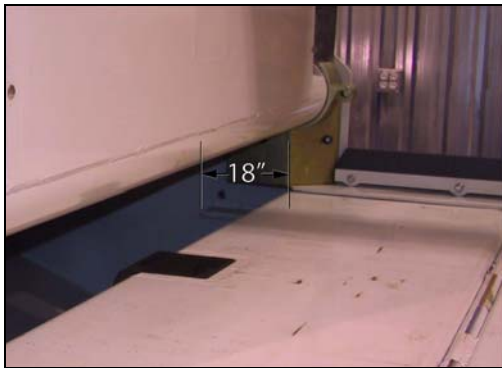

Figure 48. Packer extended 18” from end of stroke
10. Engage the hydraulic pump to extend the packer about 18 inches before the end of the stroke (Figure 48. “Packer extended 18” from end of stroke”).